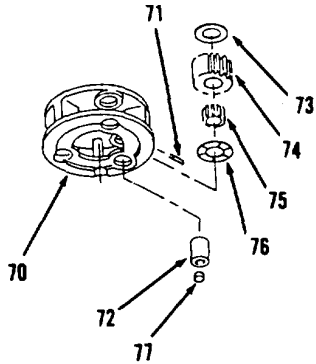

Figure 14-59.
- 36. Using punch and hammer, position three pins (71) and drive into shafts (72, Figure 14-59).
- 37. Remove three shafts (72), discs (73), gears (74), rollers (75) and discs (76) from carrier (70).